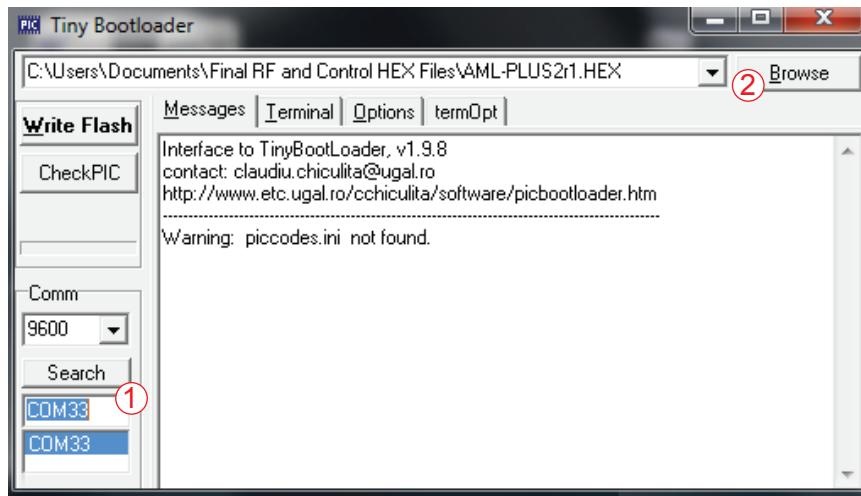
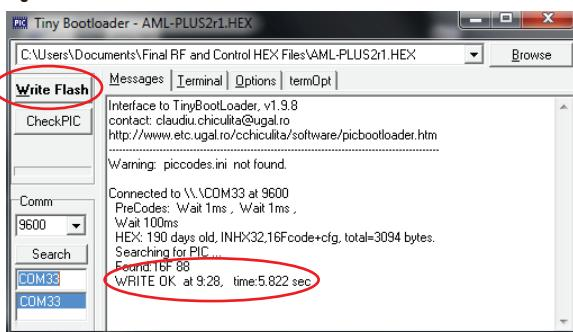

Figure 16-1
Figure 17-4
3. The tiny bootloader screen will display, (Figure 16-1).
4. The computer will automatically recognize the Comm Port the AML+ is connected. The port # **①** will appear in the left panel of the screen.
5. Select your file source by clicking on “Browse” **②** button, select latest firmware file and click “OK”
8. Upon completion, the screen will display a string of values and commands (Figure 17-4).